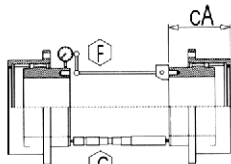
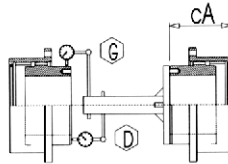
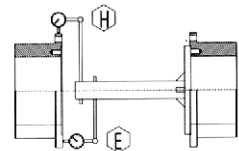

Fig.03
Fig.04
Fig.05
- H.2 Determine the angular misalignment value by processing, according to what prescribed in the scheme below, the head parallelism between the reference face surfaces of the two hubs. For gear couplings with tubular spacer or with floating shaft, check the head parallelism between the hub reference surfaces, by employing an inside micrometer positioned like **C** in Fig. 03 or a comparator positioned like **D** in Fig. 04 or like **E** in Fig. 05. The max difference between two values at 180° is ΔA .
Determine the parallel misalignment value by processing, according to what prescribed, the mutual eccentricity between the reference diameters of the two hubs. A comparator, positioned like **F** in Fig. 03, **G** in Fig. 04 or **H** in Fig. 05, shall measure the hub eccentricity. The spacer couplings, having a long distance between gear teeth, require less alignment accuracy than the standard gear couplings. In any case, verify that the checking unit, in a 360° rotation, does not have any clearance, then measure the min. and max eccentricity. The max difference is ΔP .